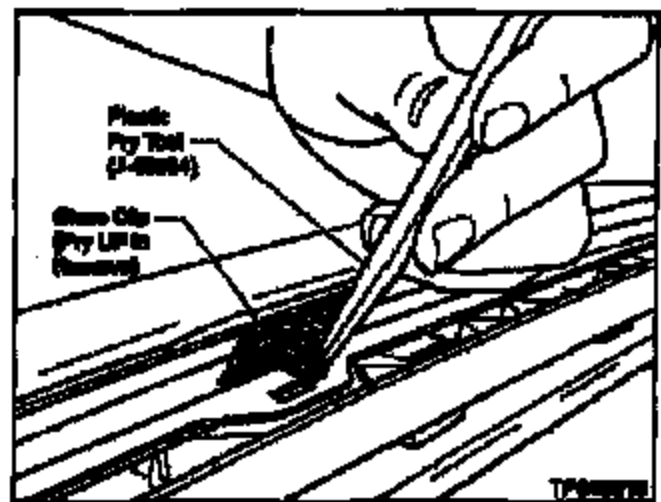

Figure 5
- Use a Plastic Pry Tool (J-48534 or equivalent) to remove the Plastic Glass Clips from the vehicle body (see Figure 5).